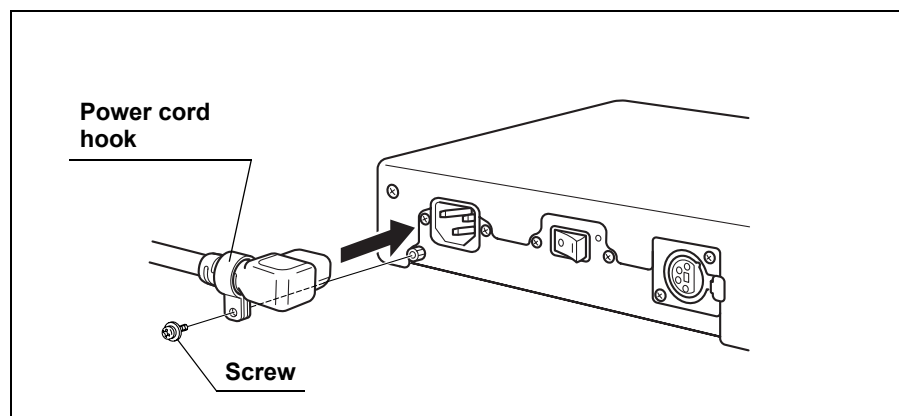

Figure 3.1
1. Connect the power cord to the AC IN terminal on the AC adapter (see Figure 3.1).